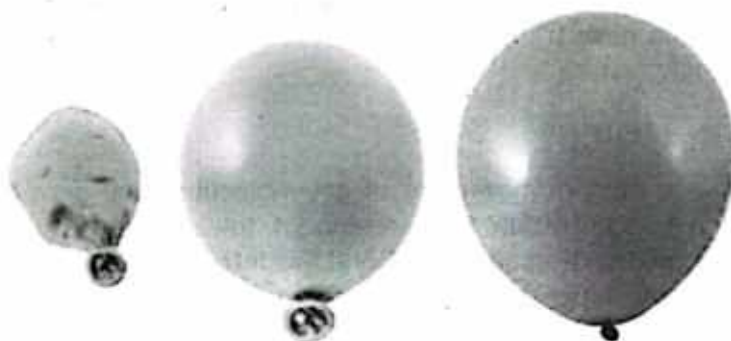

Fig. 7.13: Effusion of gas from balloon with passage of time
- b. Effusion from an inflated balloon. Blow a balloon to its full with no leak. Put it for some time like a couple of hours. You would feel that the balloon is not as inflated as it was before two hours. This is due to the fact that some air escaped out of the balloon due to effusion, as shown in figure 7.13.